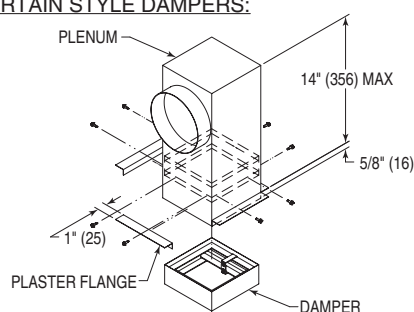

FIGURE 2A
6. For insulated plenums (Type C), insulation shall be semi rigid Type R-6, 1 1/2" (28) or Type R-8, 2" (51) fiberglass duct liner, minimum density 1.5 pcf. Insulation is self-supporting within plenum box. All internal surfaces must be lined with insulation, excluding outlet collar. The bottom edge of the insulation is trapped by a lip that is formed on the plenum box that extends a min. of 1" (25) from the inner edge of the opening to the outer edge of the box and extends a min. of 1/2" (13) up into the opening. See detail above.
8. For curtain style ceiling dampers, a 1" x 1" x 22 ga. (25 x 25 x 0.85) min. plaster flange is secured to the plenum box using spot welds, self-piercing steel rivets, or sheet metal screws, spaced max. 6" (152) max. OC, 2" (51) from each corner (See Figure 2A or 2B).
10. The 0757(D) Series Ceiling Radiation Damper is classified for use in specific wood truss ceiling assemblies. See UL Fire Resistance Directory for Floor/Ceiling design No.'s L528, L546, L550, L558, L562, L574, L576, L579, L581, L583, L585, M501, M503 and Roof/Ceiling design No.'s P531, P533, P538, P545, P547, P552.